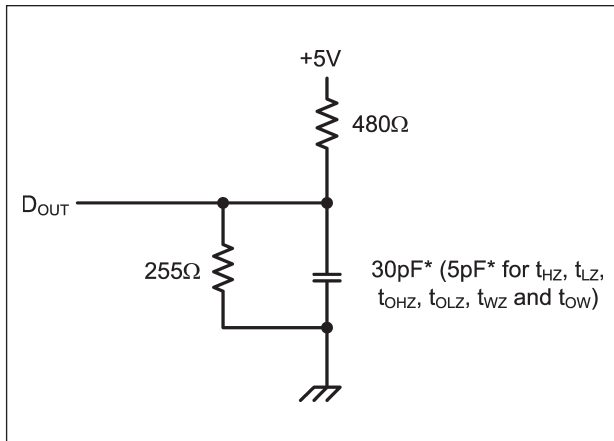

Figure 1. Output Load
8. Transition is measured  $\pm 200$  mV from steady state voltage prior to change, with loading as specified in Figure 1. This parameter is sampled and not 100% tested.
| Output Load                   | See Fig. 1 and 2 |